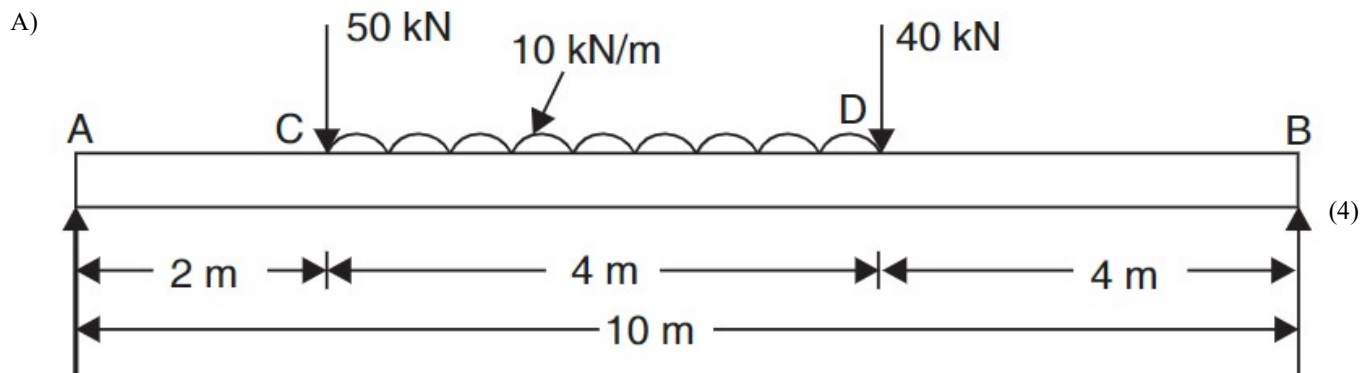

Figure 1
- 1) A simply supported beam of length 10m, carries the uniformly distributed load and point load as shown in the figure 1. Draw the shear force and bending moment for the beam also find the maximum bending moment